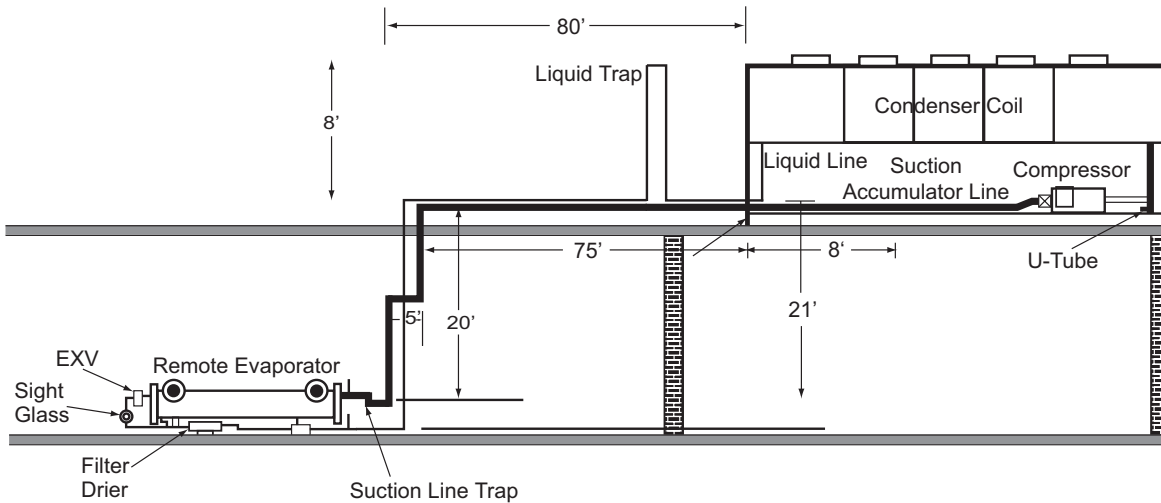

Figure 22 Liquid Line Sizing Example
For this example, refer to Table 2, 3, 4, and Figure 22, and assume a 50 ton circuit.
- From Figure 22, the actual length of field installed piping is:
- In Figure 22 there are six long-radius elbows. From Table 3, for 1-3/8 inch elbows, the equivalent feet is:
1. Break the suction line into its "Upflow" and "Horizontal or Downflow" components. The horizontal or downflow length should include that portion of field-installed suction line within the condensing unit's base. See Figure 22.